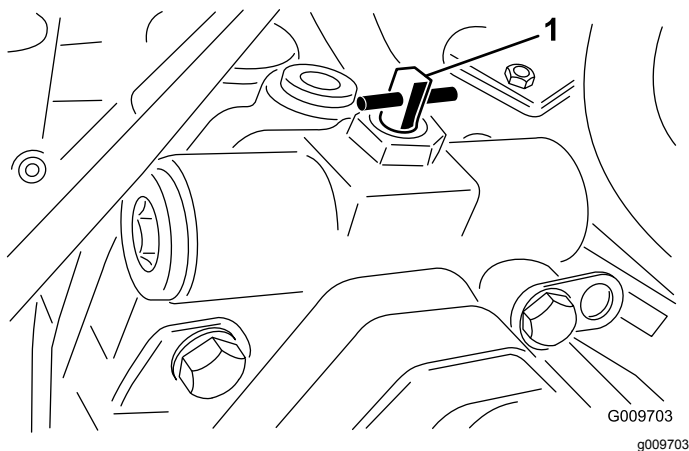

Figure 19
2. Rotate the bypass valve 90° (1/4 turn) in either direction to open and allow oil to bypass internally (Figure 19). Because fluid is bypassed, the machine can be slowly moved without damaging the transmission. Note the position of the valve when opening or closing.